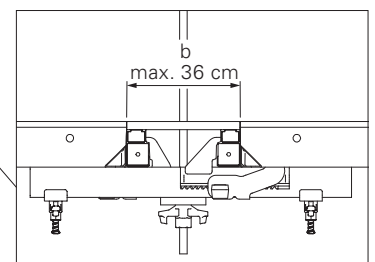

Fig. B5.02b
When anchoring, ensure that the anchor forces are transferred centrally through the Compensation Waler MAR 85 (21) to the adjacent panels. (Fig. B5.02b)